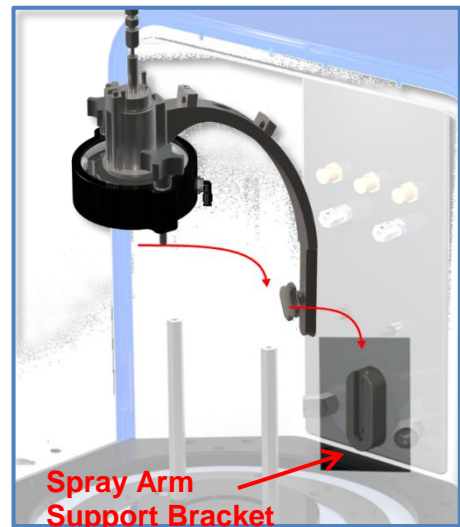

Figure 5-8: Atomizer Removal from LabRAM II Back Panel
- 5.2.4 Locate the Spray System Nozzle Arm and Atomizer Assembly and thumb screw. Position the Spray System Nozzle Arm and Atomizer Assembly above the Spray Arm Support Bracket (Resodyn Part Number 104215) on the LabRAM II back panel. To seat the Nozzle arm into the Support Bracket, slide the arm down into position (Figure 5-8). Tighten the Support Arm Tension Knob by turning in a clockwise direction until the Arm is secure in the Bracket (see 5.2.5 on Page 17).. Insert the thumb screw knobs just until the threads are engaged with the Spray Arm Support Bracket. Loosen the Thumb Screw knobs so that the